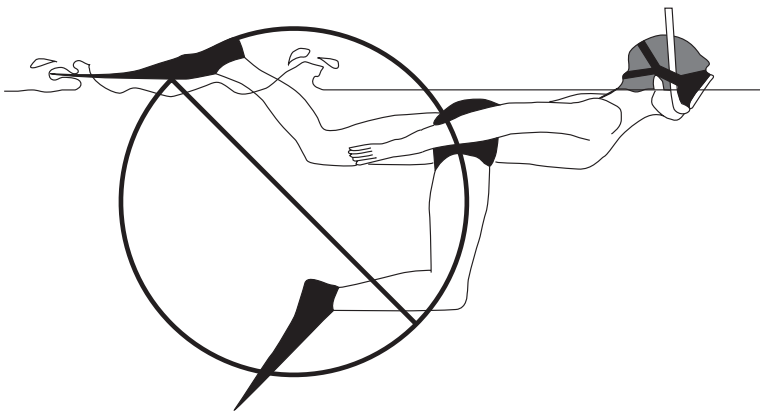

Figure 139.3 Incorrect finning method (Adapted from British Sub-aqua Snorkelling Manual)
3. Avoid bending your knees as shown in Figure 139.3 as this wastes effort.
2. If a skindiver cycled his/her legs as shown in Figure 139.3 while snorkelling, what effect would this have on the ability to skindive for a long time?